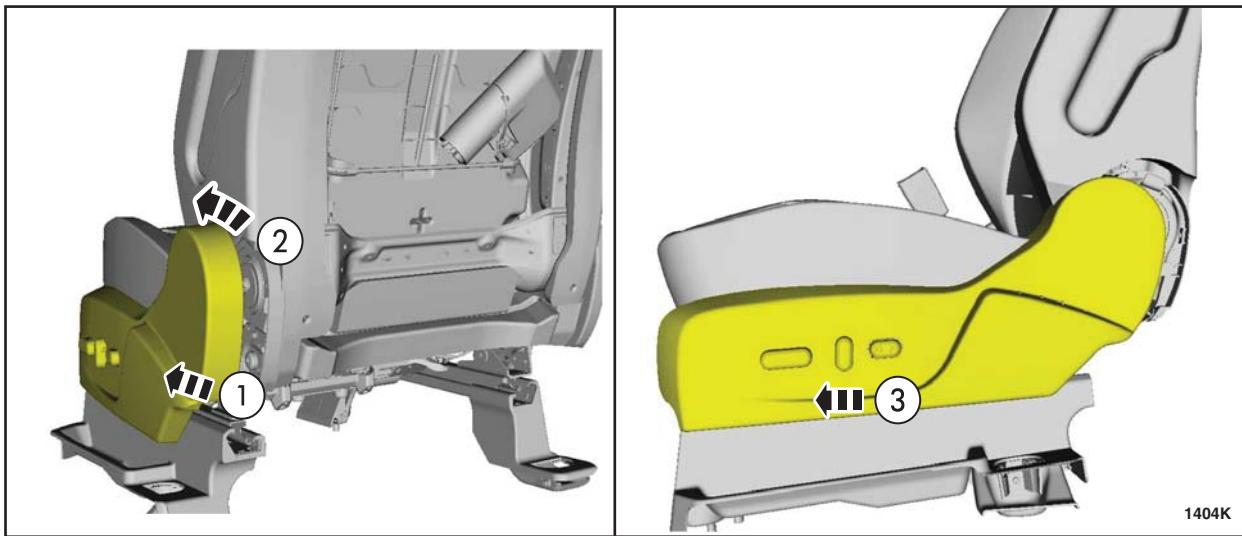

FIGURE 11
- At the location shown in Figure 11 #1, pull out to release the retaining clips.
- At the location shown in Figure 11 #2, pull up and out to release the upper retaining tab.
- As shown in Figure 11 #3, slide the cover forward to remove from the seat.